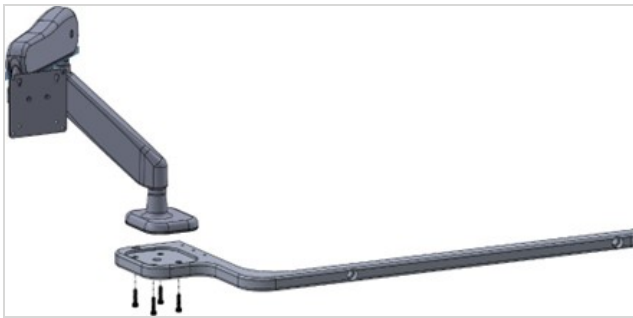

Figure 2: Joining arm mount to large white bracket for left side orientation
3. Use the supplied hardware to connect the large white bracket to the arm (Fig. 2).